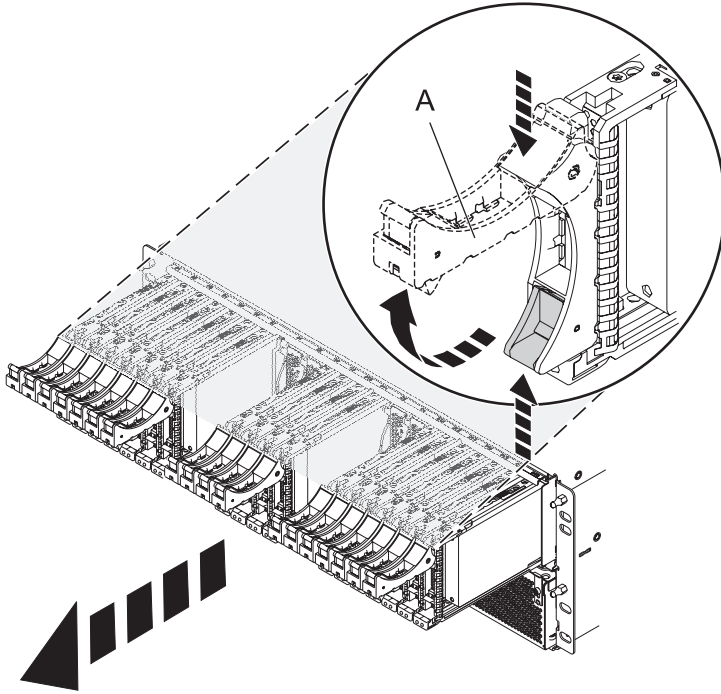

Figure 81. Removing the drives from the backplane
4. Remove the drives and fillers as shown in Figure 81 on page 110.
- a. Squeeze the latch of the drive and pull the handle (A) toward you to release the drive.